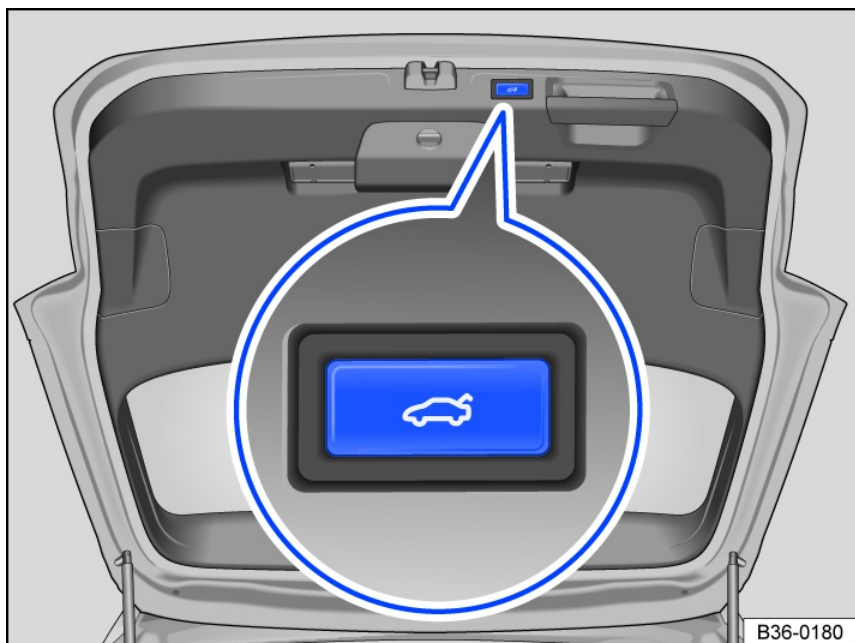

Fig. 66 In the open trunk lid: Button for power closing the trunk lid.
1. Press the button in the trunk lid when it is open fig. 66.
Or: press the button on the trunk lid while the lid is opening or closing fig. 66.
2. Press and hold the  button in the trunk lid until the emergency flashers start flashing fig. 66.